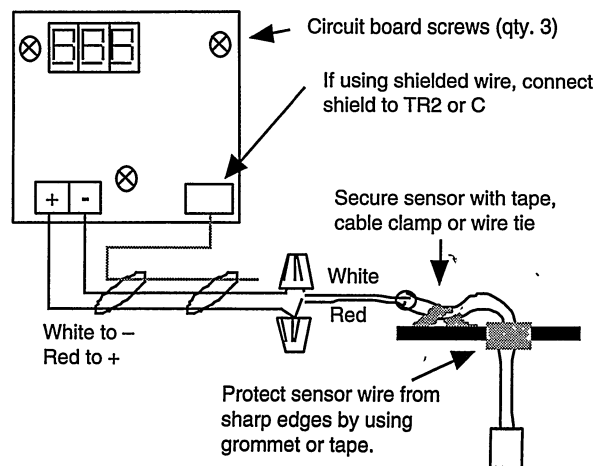

Figure 3. Capacity Controller with Remote Sensor
- E. If mounting sensor remotely, refer to Figure 3 and do the following: